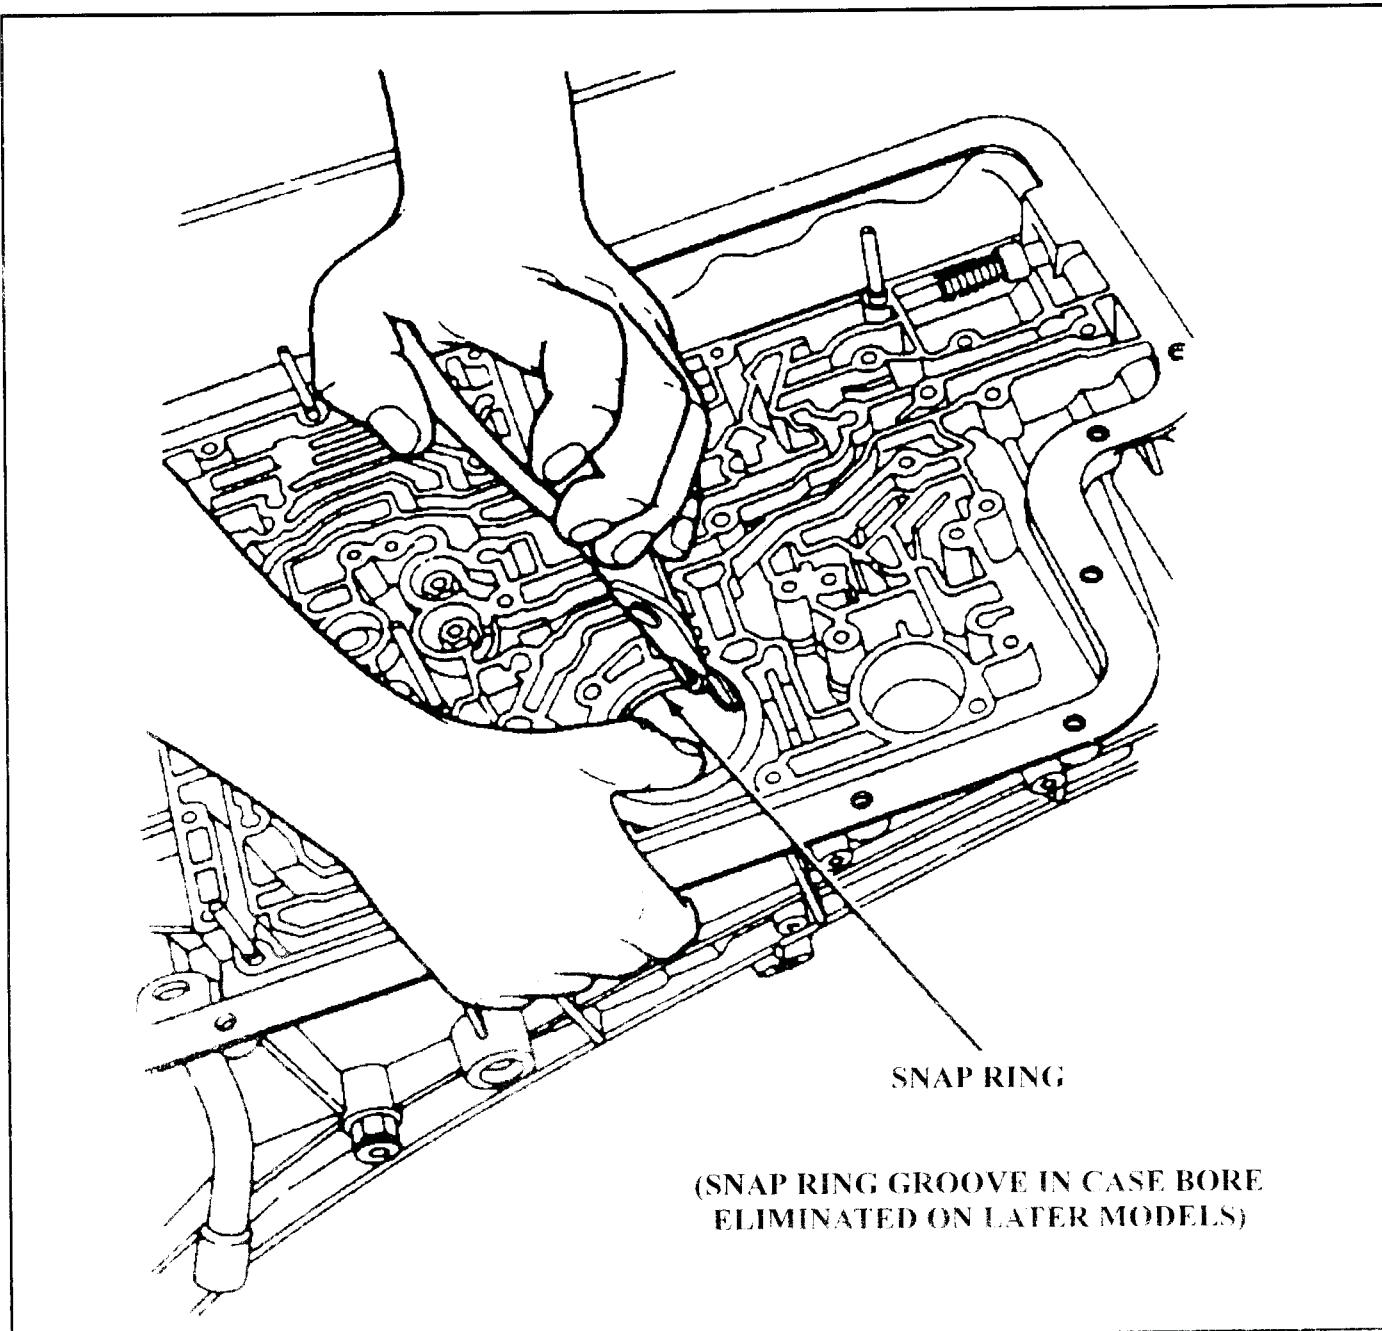

Figure 62
- (4) TRANSMISSION CASE - Snap ring groove in the case piston bore was eliminated, as it was no longer needed (See Figure 62).